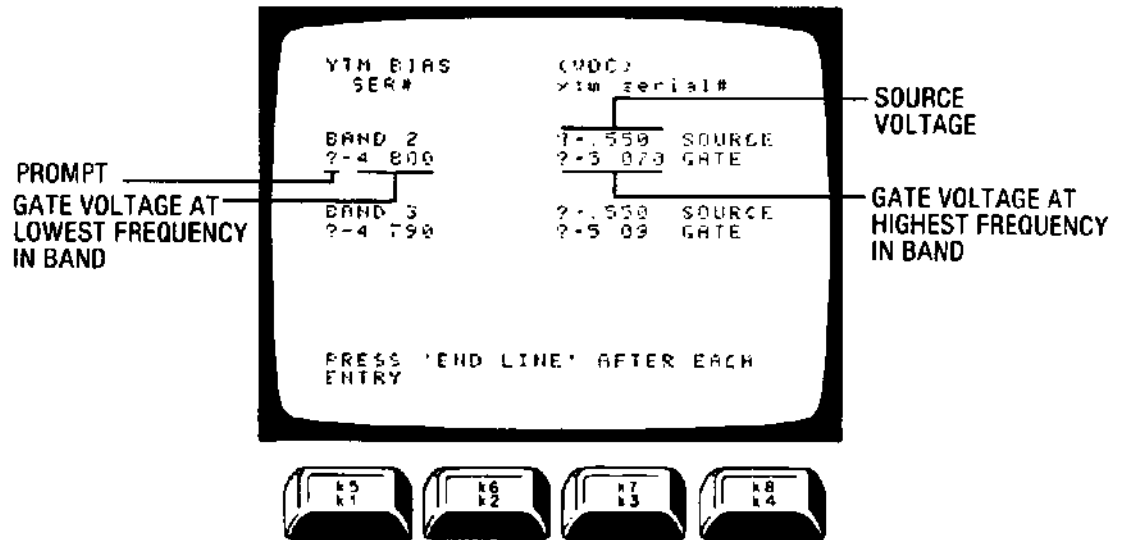

Figure 5-18. Format for Entering SRD Bias Voltages
a. Source and gate dc bias voltage values are entered into the controller as shown in Figure 5-18. The bias voltages are listed on the YTM label located inside the Signal Generator near the A2A5 assembly on the A2 Controller chassis. The question mark (?) is used as a prompt to indicate when and where data should be entered.